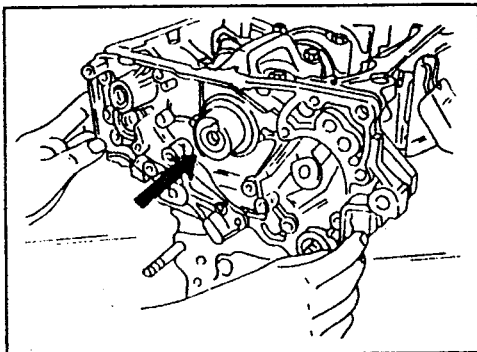

Fig. 2.8. — Fitting the front housing. Protect the oil seal by winding tape around the crankshaft end.
- Insert the L.H. shaft into the cylinder block at the same time place the housing over the cylinder block, as shown in Fig. 2.8. Insert a screwdriver into the block (as shown in